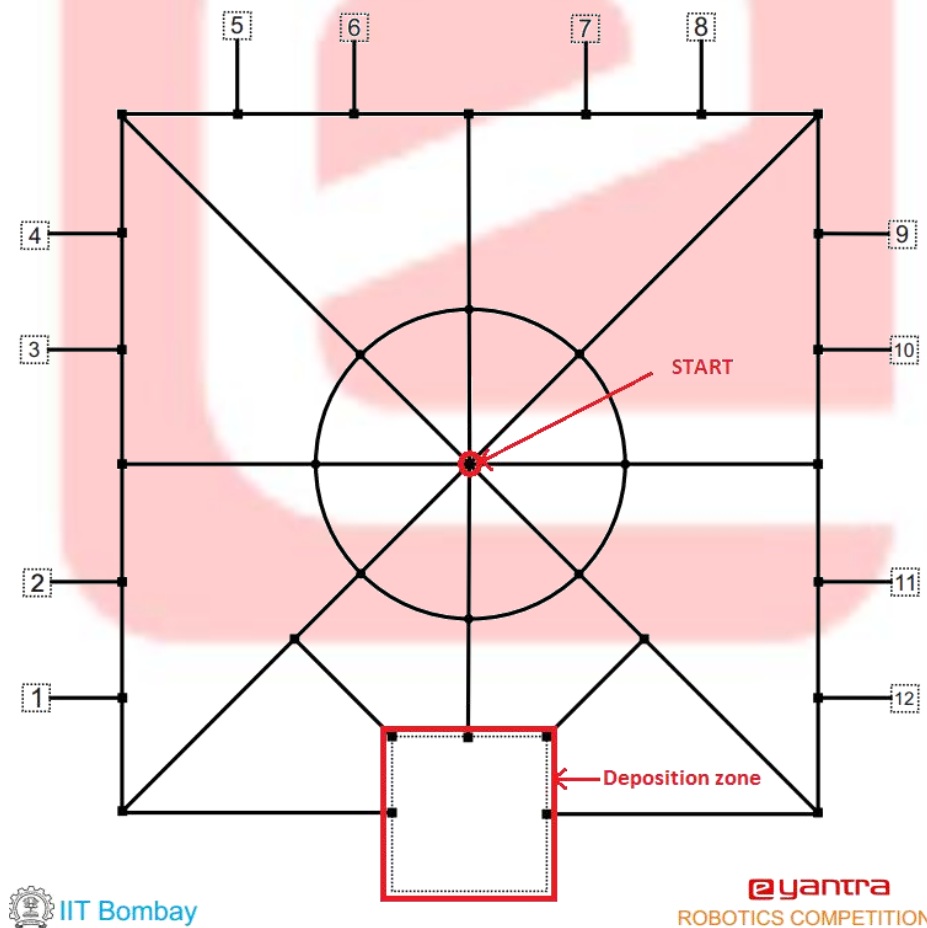

Figure 1: Arena Design
- Robot starts from **START** position of the arena representing a farm (Refer to Figure 1).
- i. Thermocol **Blocks** of Red (R), Blue (B), Green (G) or Yellow (Y) colors are used to represent **Crates** of four different types of fruits in the Blender Interface.
- iii. **Rotating Structure** having four sections is used to represent a **Truck** having four sections in Blender Interface. Different sections are labeled: Red (R), Blue (B), Green (G) and Yellow (Y).
The arena for this theme is an abstraction of a farm as shown in Figure 1.